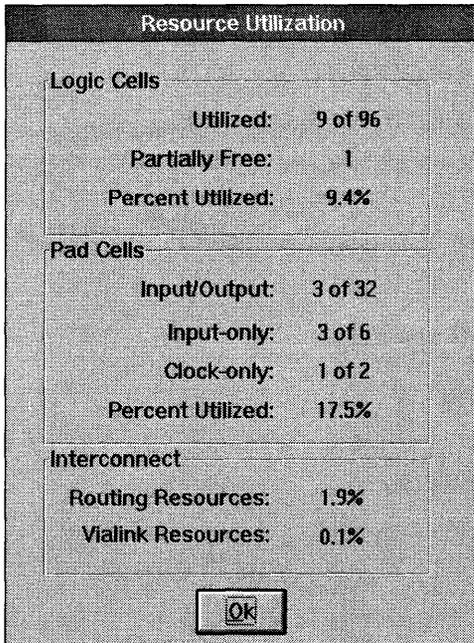

Figure 5-9 Typical Cell Utilization dialog box
*Cell Utilization* reports the number of cells of different types used in the design (Figure 5-9) as well as the number of logic, input-only, clock-only, and bidirectional cells. Also included is a count of "partially-free" cells; these are logic cells with a free AND fragment. These cells can accept any macro that can be implemented in a single AND fragment. This information is provided to allow fine-tuning of high-utilization designs.